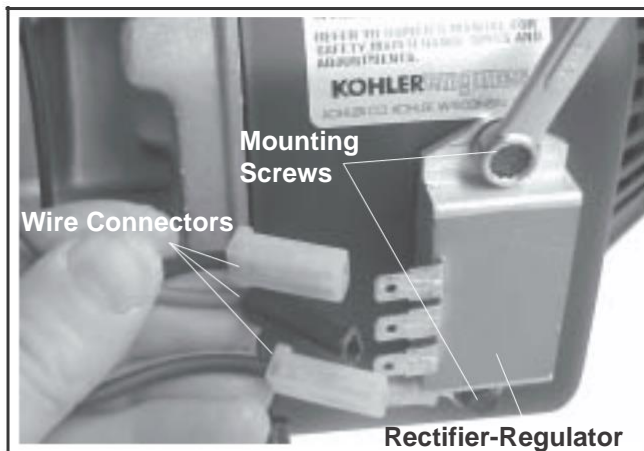

Figure 9-20. Removing Rectifier-Regulator.
1. Remove the connector(s) from the rectifier-regulator. See Figure 9-20.